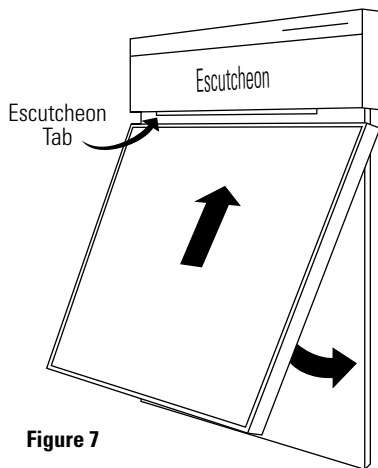

Figure 7
- Slide the panel assembly into the escutcheon tab (Figure 7).